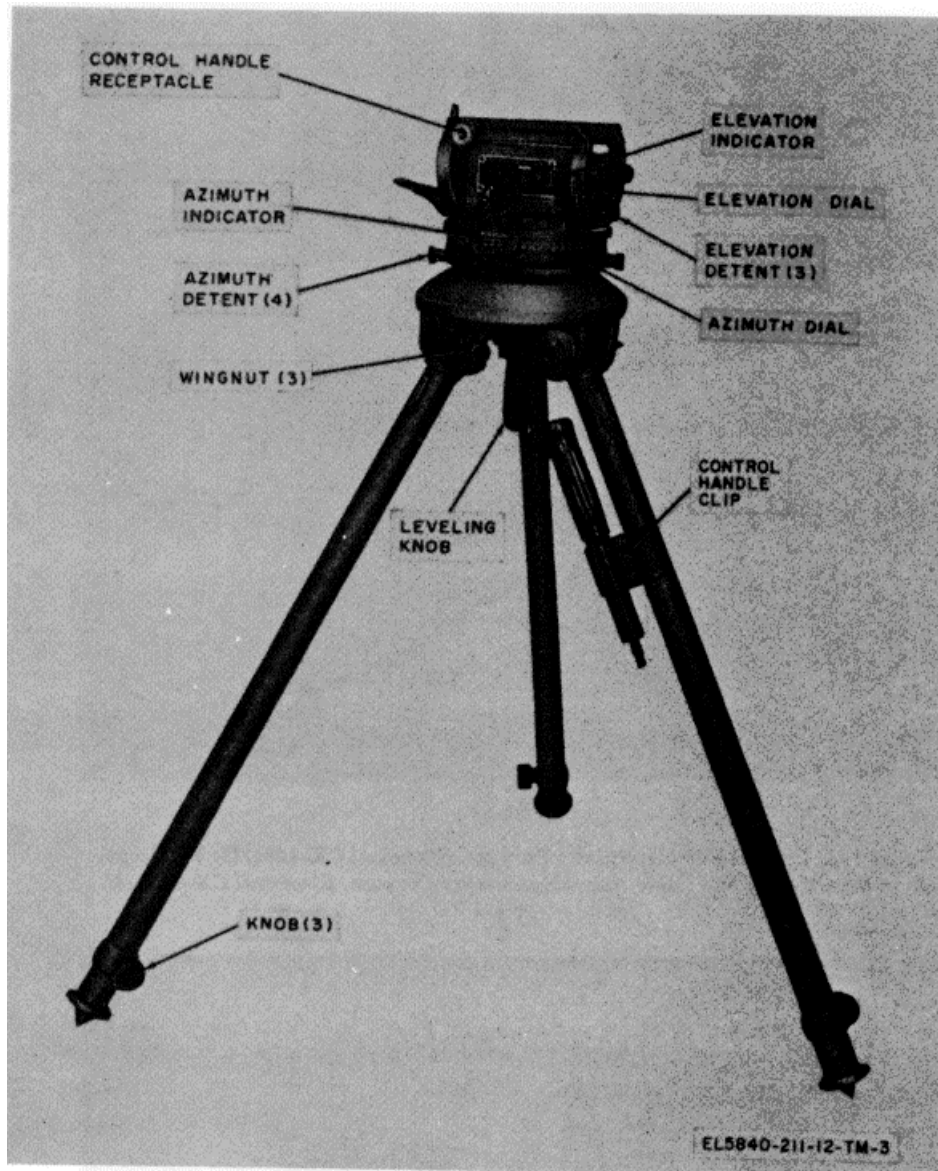
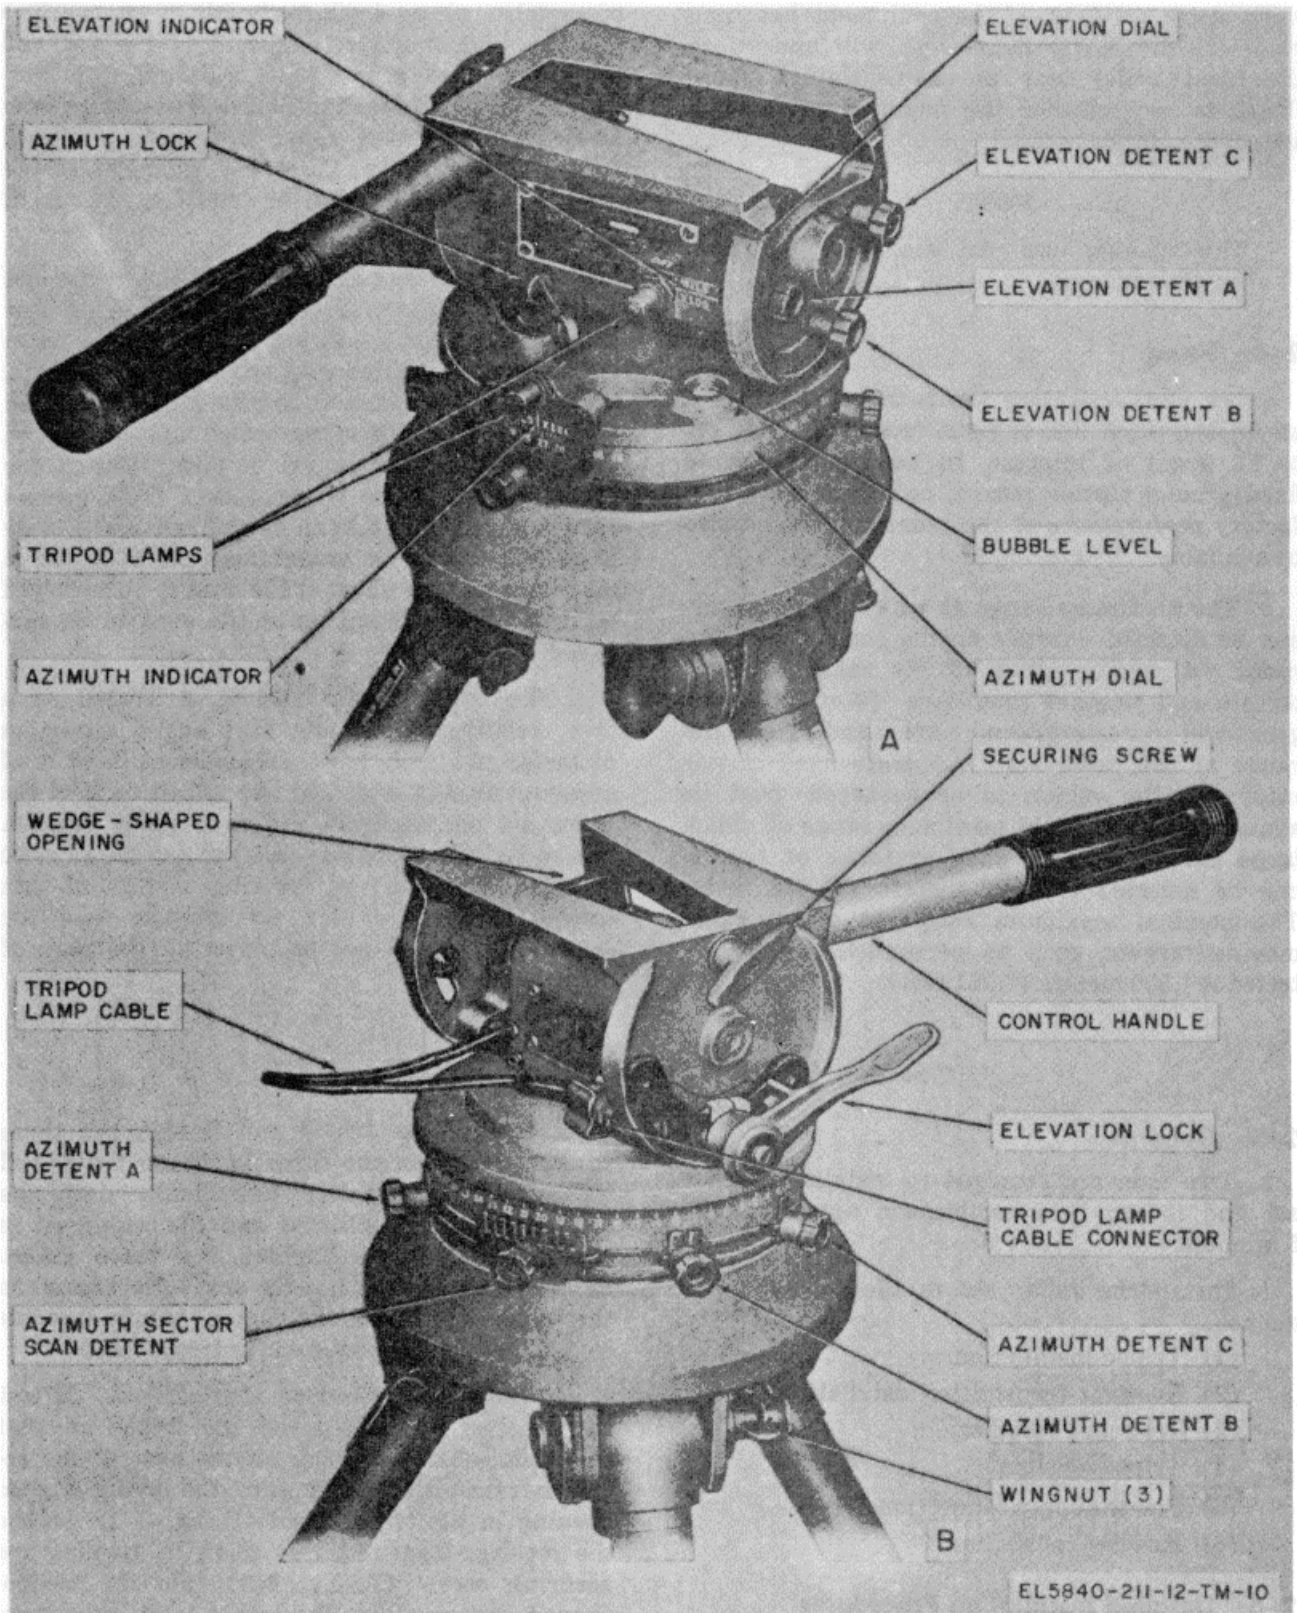

Figure 1-3. Tripod, Receiver-Transmitter MT 1946/PPS-4.
Figure 2-2. Tripod head.
collapsible, metal tripod (fig. 1-3). The tripod can raise the receiver-transmitter between 1 and 5 feet above the ground. The tripod head is adjustable by means of a control handle to permit variation of the azimuth and elevation angle settings of the receiver-transmitter. The azimuth and elevation angles, in 100-mil steps, are indicated on the azimuth and elevation dials of the tripod head. The tripod head is also equipped with four azimuth and three elevation detents. These detents may be set at various azimuth and elevation headings to provide reference points when the radar set is searching an area.
a. *Tripod Installation* (fig. 1-3). Loosen the three wingnuts on the tripod legs. Extend the three legs of the
b. *Receiver-Transmitter Installation*. Mount the receiver-transmitter on the tripod so that the wedge-shaped casting on the base of the receiver-transmitter slides into the wedge-shaped opening in the tripod head (B, fig. 2-2). Secure the receiver-transmitter in place by turning the securing screw (B, fig. 2-2) into the wedge-shaped casting. Plug the tripod lamp cable connector (fig. 2-2) into the tripod lamp cable receptacle on the receiver-transmitter (fig. 24).
Telescope M84 may be used interchangeably with Telescope M62AIC. d. *Tripod Leveling.* To level the radar set, loosen the leveling knob (fig. 1-3) under the tripod head. Adjust the tripod head until the bubble level (A, fig. 2-2) on the top of the tripod indicates that the tripod assembly is level. Tighten the leveling knob.
Azimuth sector scan detent	An azimuth sector scan detent (fig. 2-2) may be set and locked at any position on the azimuth dial. Nine individual detents make up the overall azimuth sector scan detent. Each individual detent allows overlapping coverage of 60-mil sectors. The overall azimuth sector detent is equivalent to an azimuth sector of 540 mile. Complete survey of the area in azimuth and range for which the azimuth sector scan detent is set can be accomplished by moving the receiver-transmitter step-by-step through each of the individual detents and range searching in either the long or short mode at each detent setting.
b. Loosen the azimuth detents (B, fig. 2-2) that secure the azimuth dial to the tripod head and rotate the dial until the known azimuth reading is lined up with the azimuth hairline on the azimuth indicator.